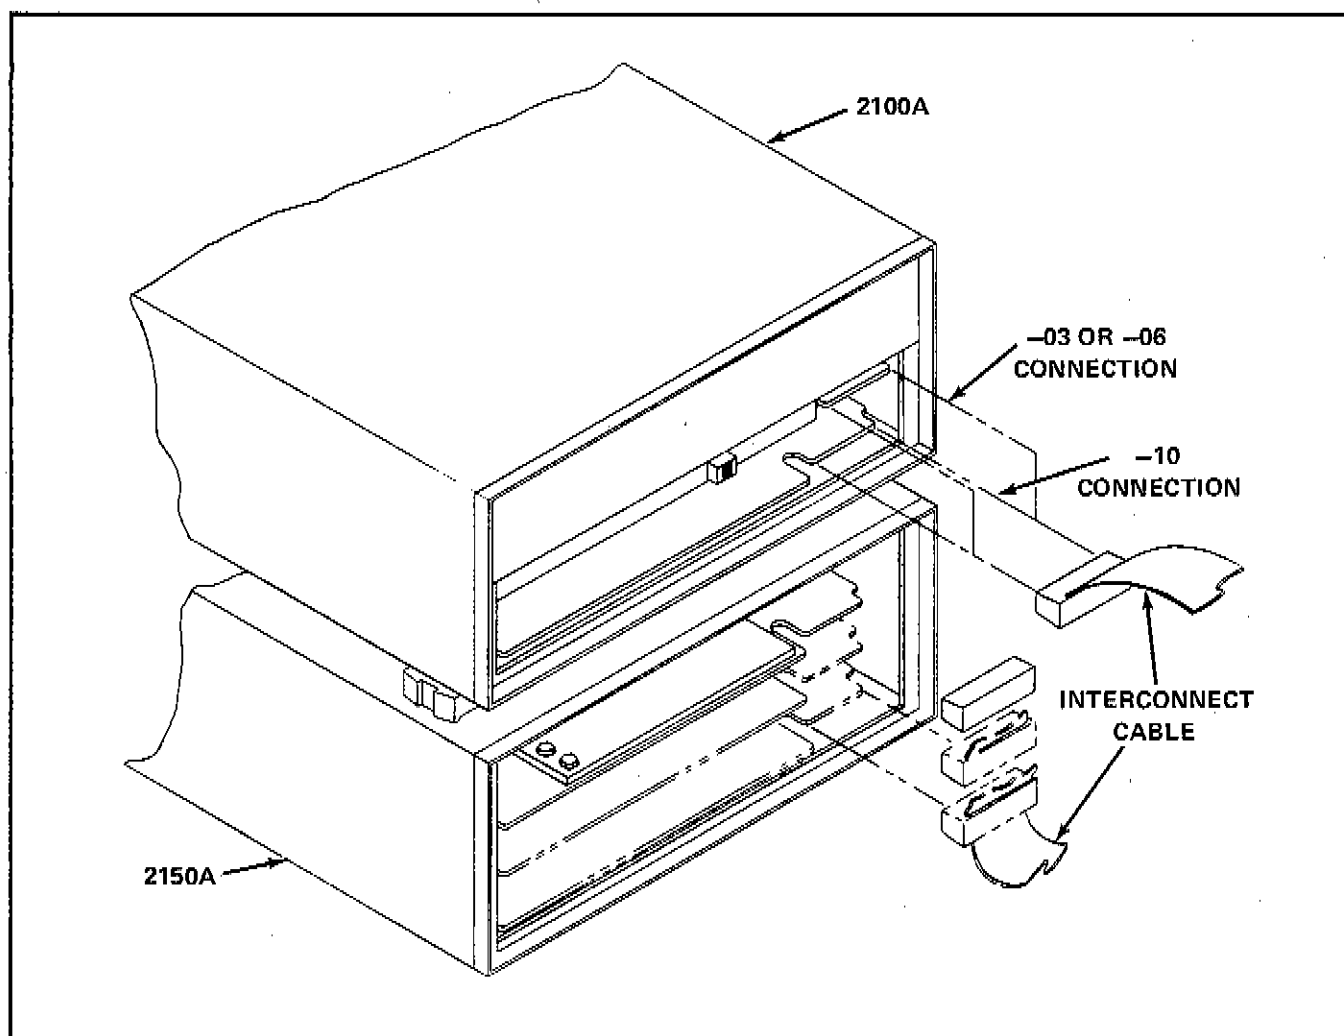

Figure 6-11. 2150A - 2100A INTERCONNECTION
- c. Connect the supplied interconnect cable to the 2150A board edge connector (s) as shown in Figure 6-11. (One connection for the 2150A-10, two for the 2150A-20, and three for the 2150A-30.)
- d. (1) (2100A-03 or 2100A-06)
Connect the other end of the interconnect cable to the board edge connector described as (-03 or -06 CONNECTION) in Figure 6-11.
Connect the other end of the interconnect cable to the board edge connector described as (-10 CONNECTION) in Figure 6-11.
- c. Replace the rear panels of the 2150A and 2100A in Figure 6-11
- b. Connect one end of the interconnect cable to the board edge connectors (see Figure 6-11) on one 2150A.